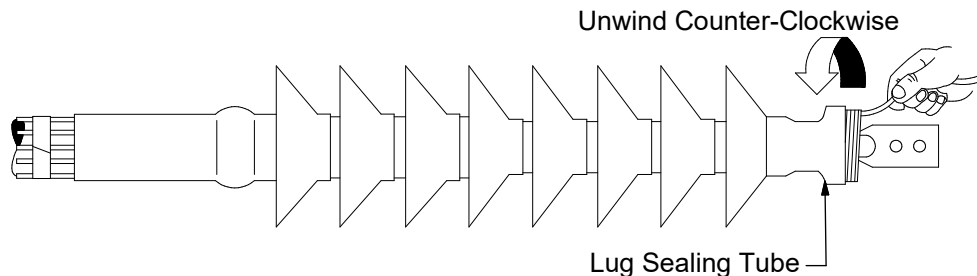

Figure 14
16. Slide the lug sealing tube onto the lug/termination, as shown. Start to shrink the tube near the top of the last skirt and onto the lug barrel. If the tube overlaps the lug pad or is not tight to the lug barrel, carefully trim the tube just past (1/4") the Scotch Rubber Mastic Tape 2228 sealing tape. A roll of Scotch Self-fusing Silicone Rubber Tape 70 is provided to cover the edge of the trimmed tube, apply with moderate tension, stretching only enough to conform to the lug barrel and tube. (Figure 14)